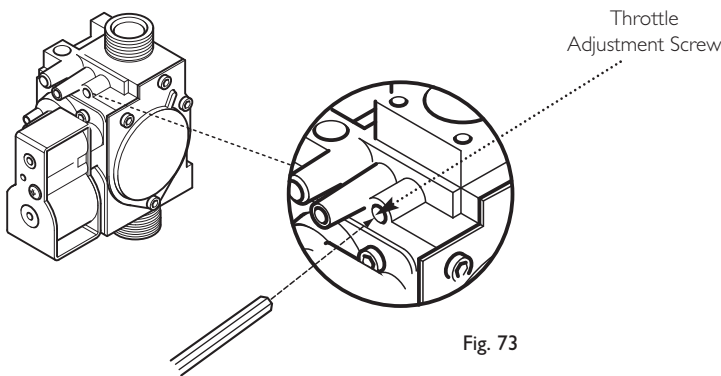

Fig. 73
**NOTE:** To assist the boiler to light prior to final setting, use a suitable hexagon key to wind out the Throttle Adjustment Screw until it is flush with the valve body, then turn the screw 4 full turns clockwise (Fig. 73). If the boiler will not light, or the correct CO2 cannot be achieved contact Baxi Customer Support 0344 871 1545.